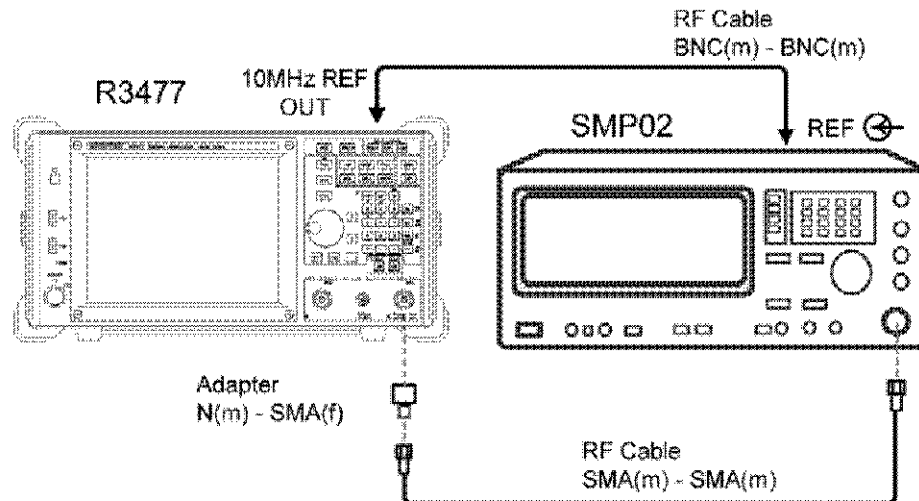

Figure 2-4 Frequency Reading Accuracy Test
1. Connect the instruments as shown in Figure 2-4.